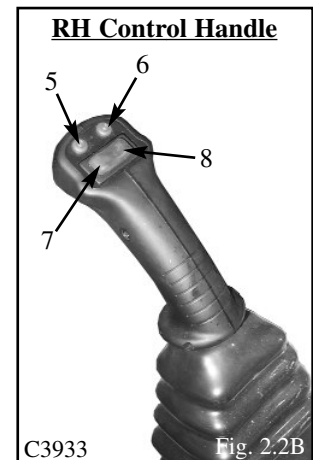

Fig. 2.2B
5. LH Directional Signal Switch (not available on all models): This switch is a momentary switch. Pressing and holding this switch will activate the LH turn signal. Releasing the switch deactivates the LH turn signal. (See Fig. 2.2B)
6. RH Directional Signal Switch (not available on all models): This switch is a momentary switch. Pressing and holding this switch will activate the RH turn signal. Releasing the switch deactivates the RH turn signal. (See Fig. 2.2B)
7 & 8. Hi-Flow Hydraulic Switch (not available on all models): This switch is a momentary switch. Pressing and holding the switch in position 7 activates the hi-flow hydraulics to the male quick coupling. Pressing and holding the switch in position 8 activates the hi-flow hydraulics to the female quick coupling. Releasing the switch returns it to neutral and stops the hi-flow hydraulic flow. (See Fig. 2.2B)